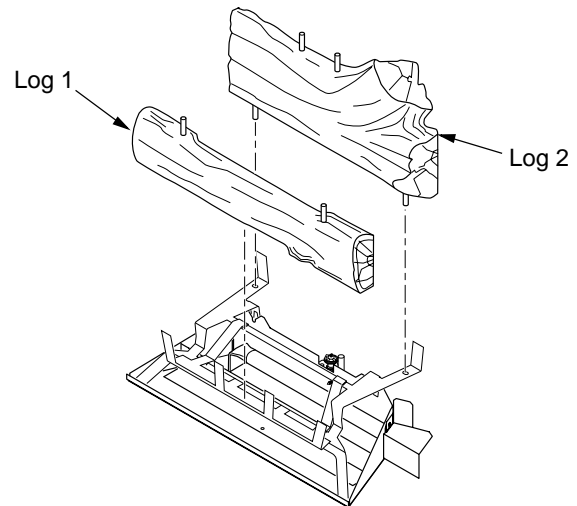

Figure 22 - Installing Logs 1 and 2
1. Place front (log 1) onto front of grate sliding log all the way forward against grate fingers (see Figure 22).
2. Insert pegs on bottom of rear log (log 2) into holes in rear of grate (see Figure 22).